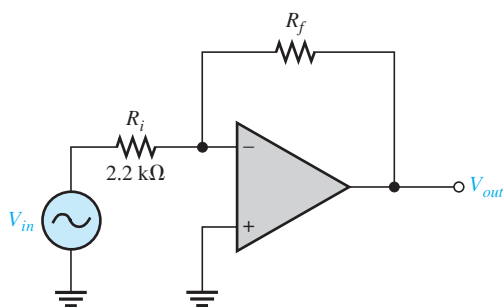

FIGURE 6-26
Given the op-amp configuration in Figure 6-26, determine the value of R_f required to produce a closed-loop voltage gain of -100 .
- If R_i is changed to $2.7 \text{ k}\Omega$ in Figure 6-26, what value of R_f is required to produce a closed-loop gain of -25 ?